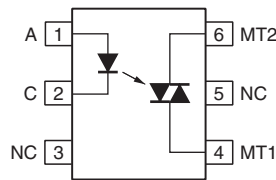

Fig. 1 - Example of a 6-Pin Phototriac
Phototriacs are solid-state AC switches consisting of an infrared (IR) emitter on the input, an isolation path, and a TRIAC switch on the output (Fig. 1). The light emitted from the IR emitter triggers the output TRIAC, making it conductive. The advantages of phototriacs over mechanical relays include their solid-state reliability, elimination of contact bounce and arcing, small size, and the ability to isolate high voltage output from the triggering input control circuitry. Phototriacs are mostly used in applications such as AC load switches, drivers for a power TRIAC, and DC latches in very unique applications.